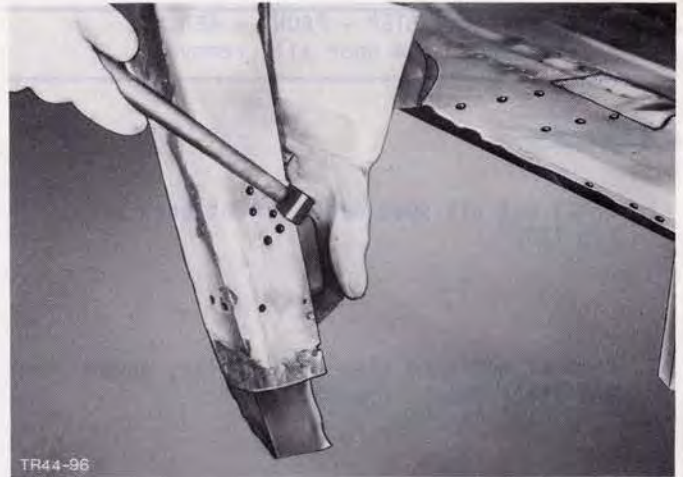

Fig.138. Straighten spot weld flanges.
6. Dress spot weld flanges and straighten with hammer and dolly, Fig.138.